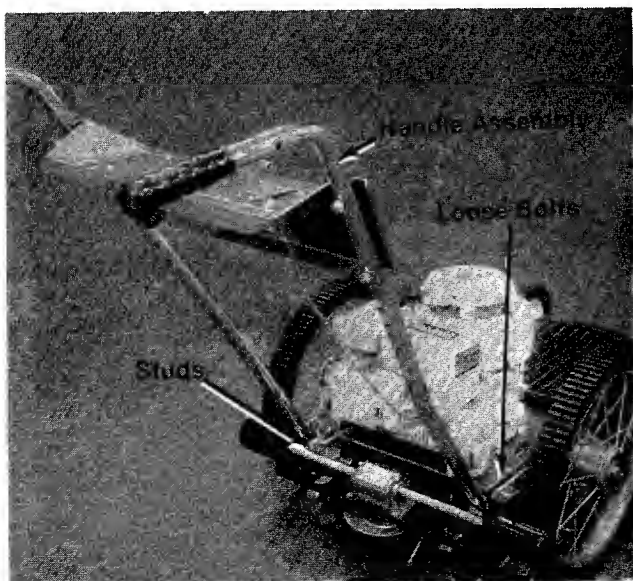

FIGURE 1
1. Place the left side of the handle assembly over the two studs extending out from the left side of the frame. (See figure 1.)